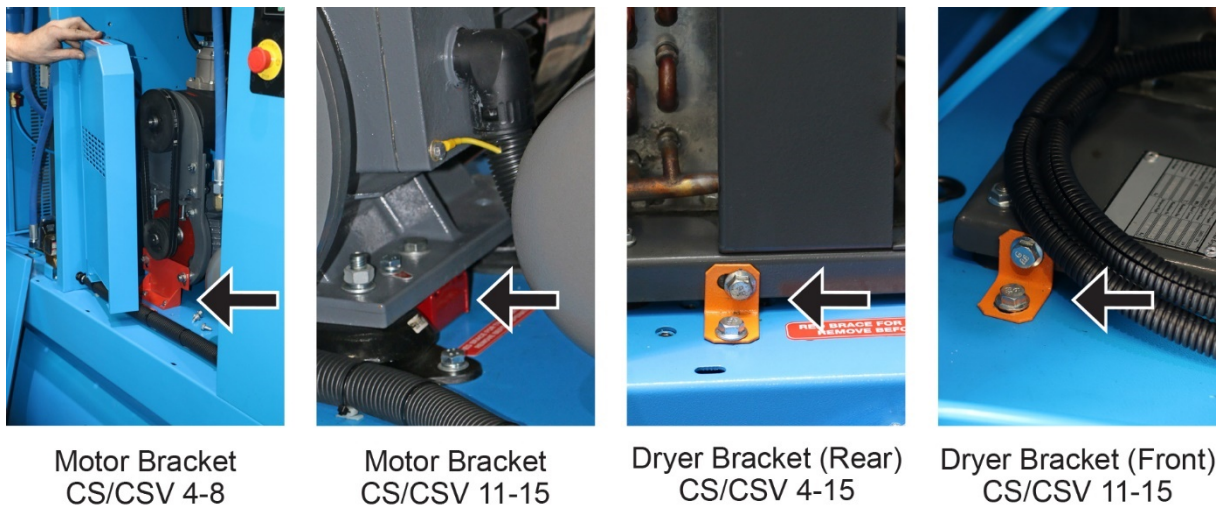

Figure 5-1 Shipping Brackets
- b. Remove the shipping bracket attached between the baseframe and the air end / motor assembly and also the shipping bracket(s) attached between the baseframe and the dryer assembly as shown in Figure 5-1.